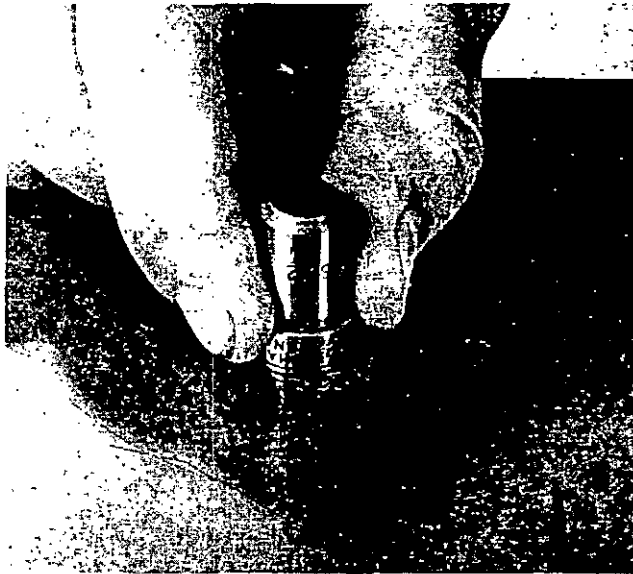

Figure 108A
6. Clean the exterior of the nozzle holder, with the nozzle cap nut in place to protect the lapped surface. (Fig. 108A.)